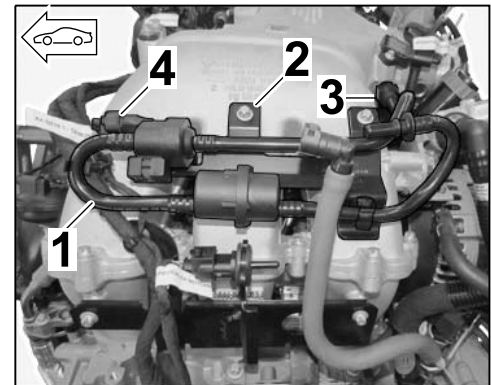

Figure 19
2.5.8 Fit new fuel tank vent line on holder for intake-air distributor for cylinder 1-3 and connect plug connections (⇒ *Figure 19*).